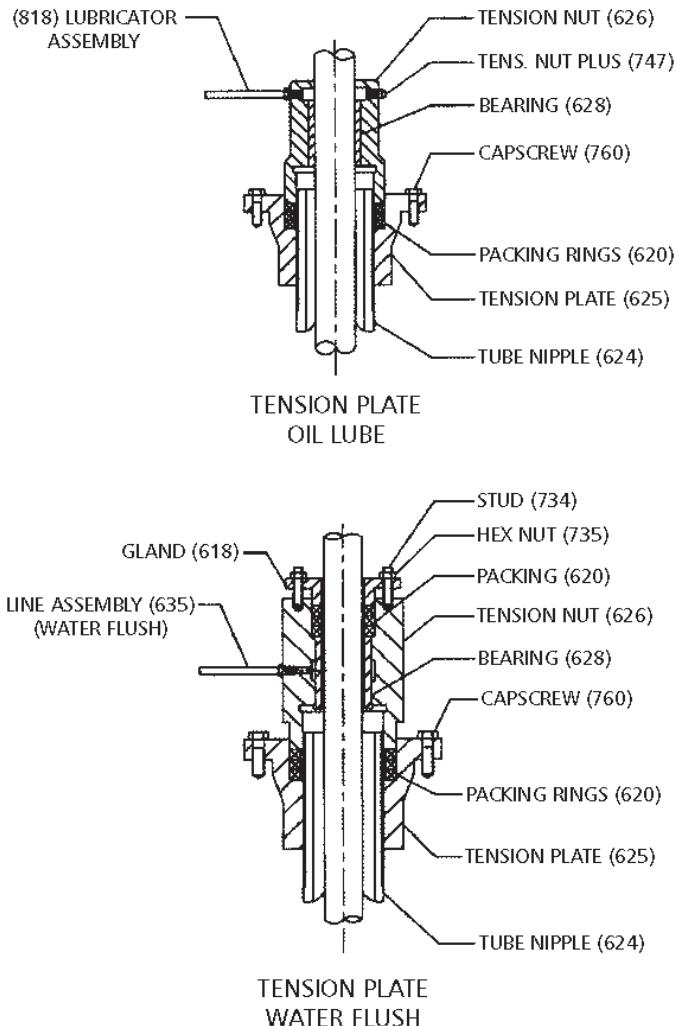

Figure 10
1. If the stuffing box (See Fig. 9) or tension nut (See Fig. 10) is assembled to the head, remove it and all the attached piping.
2. For threaded column, check to be sure that the flange column (637) is securely attached to the bottom of the discharge head. Check and tighten the capscrews (or socket head screw) gradually in diametrically opposite pairs.
1. (See Figure 10). Lubricate tube threads and underside of tension plate flange with thread compound. Thread the tension plate (625) onto the enclosing tube nipple (629) manually until its shoulder rests on the discharge head.
1. (See Figure 10). Install capscrews (760) in the tension plate. Pour one pint of oil down the oil tube. Note: Factory assembled unit has no oil in it. Oil must added in the field.
2. Install packing (620) in the tension plate and thread the tension nut (626), tightening it firmly against the packing.
3. If a packed type tension nut (626) is used (for water flush), install packing (620), packing gland (618) and secure with stud (739) and nut (735). Screw nut finger tight. Install line assembly (635) and connect to flush liquid supply (see Figure 10).